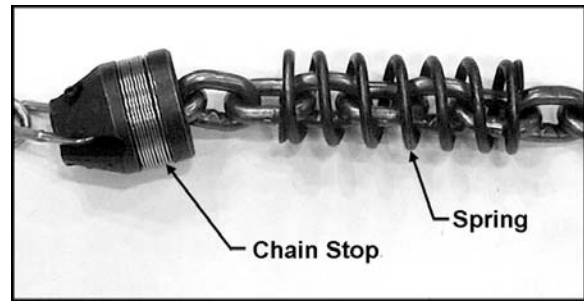

Figure 14
3. On the slack side of the chain, remove the chain stop and the spring (Figure 14). Keep these handy for later re-installing.
3. On the slack side of the chain, remove the chain stop, and remove the black spring(s). (see Figure 14). Keep these handy for later re-installing.